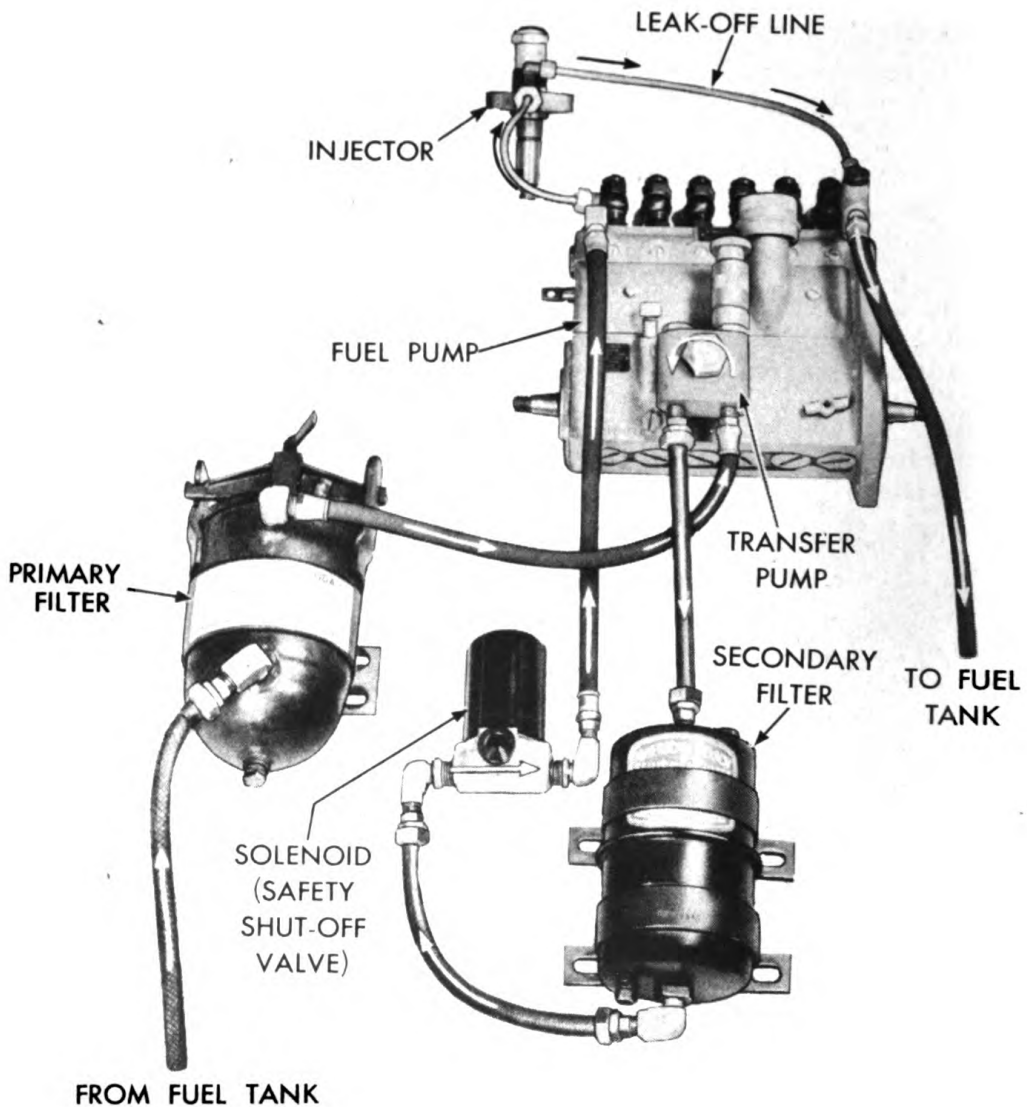

Figure 197. Fuel Line Connection and Direction of Flow.
36. Install the fuel connections between the filters, the shut-off valve and the injection pump. See Figure 197.
The fuel system cleans, prepares, controls, and times the flow of the fuel to the engine. The fuel passes first, through the primary filter, then to the fuel transfer pump which maintains 15 pounds pressure, than to the secondary filter, then through the solenoid or safety shut-off valve to the fuel injection pump, from which the fuel is injected through the injection lines, and finally through the nozzles into the combustion chambers. The fuel return line carries off the excess fuel delivered by the fuel transfer pump through the check valve in the fuel injection pump and returns it to the fuel tank. Figure 197 illustrates the flow of the fuel oil.